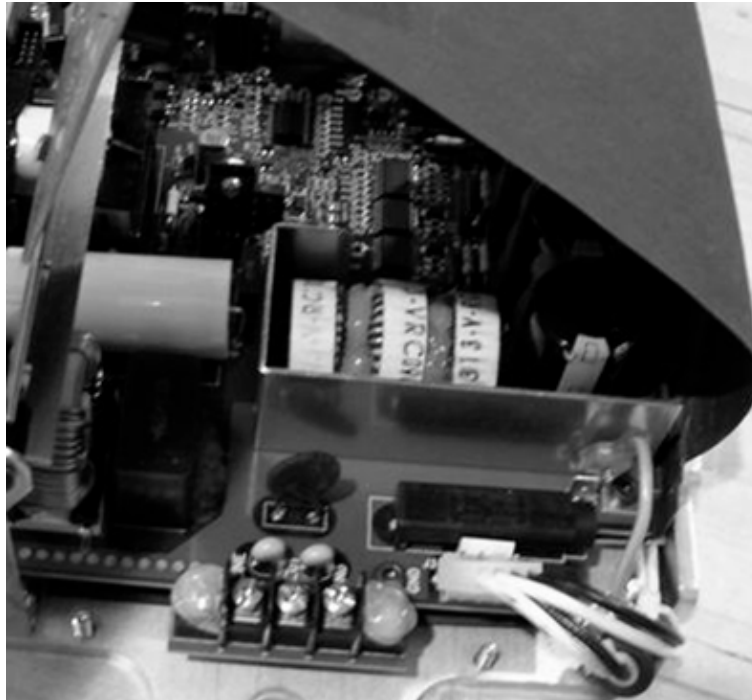

Figure 30: Disconnected Power Supply Cord
2. Disconnect mains wires from J4 on the Power Supply Board 30-08041 (Figure 30).